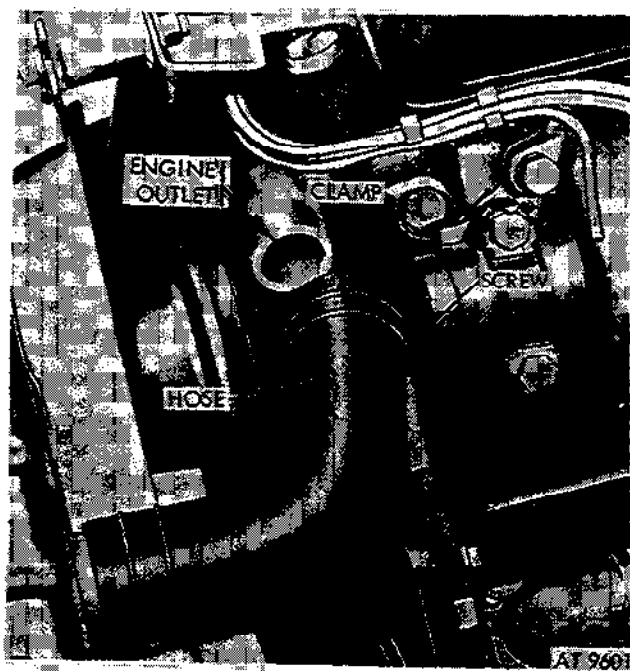

Figure 2-50. Radiator outlet hose.
(3) Drain radiator coolant.
(4) Loosen radiator hose clamp and pull radiator inlet hose off engine outlet (fig. 2-50).